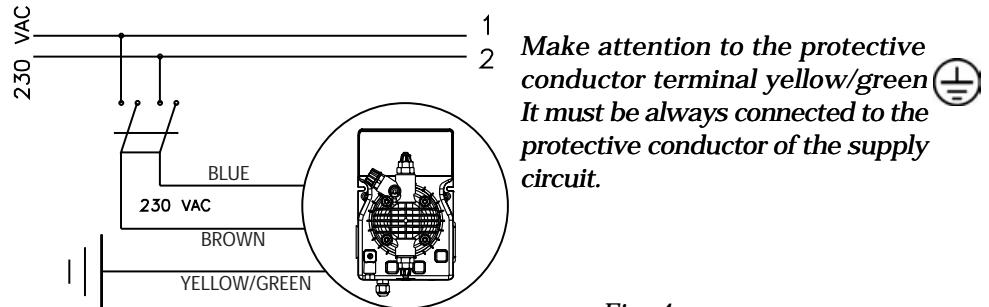

Fig. 4
b. - Carefully observe the regulations in force in the various countries as regards electrical installations (Fig. 4). **When the supply cable is devoid of a plug, the equipment should be connected to the supply mains by means of a single-pole circuit breaker having a minimum distance of 3 mm between the contacts. Before accessing any of the electrical parts, make sure that all the supply circuits are open.**